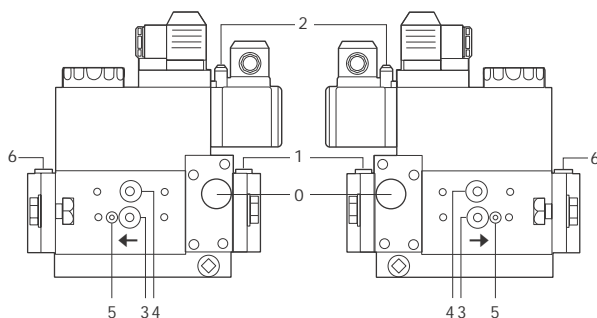
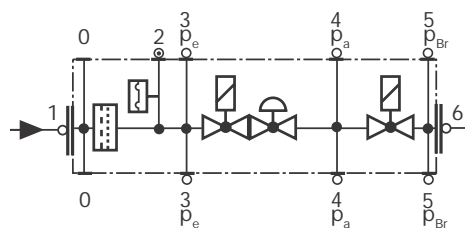

Fig. 27
Fig. 28
- Change the filter if the pressure difference between pressure connection 1 and 3 (Fig. 27-Fig. 28) is  $\Delta p > 10$  mbar.
- Change the filter if the pressure difference between pressure connection 1 and 3 (Fig. 27-Fig. 28) is twice as high compared to the last check.